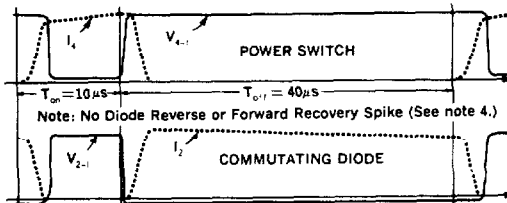

Figure 2. PIC645, 646, 647 Switching Waveforms
- No reverse recovery spike generated by commutating diode (See note 4. and Fig. 2.)
- In switching an inductive load, the current will lead the voltage on turn-on and lag the voltage on turn-off (see Figure 2). Therefore, Voltage Delay Time (t_{DVI}) = $t_{di} + t_{ri}$ and Current Storage Time (t_{st}) = $t_{sv} + t_{fv}$.
- As can be seen from the switching waveforms shown in Figure 2, no reverse of forward recovery spike is generated by the commutating diode during switching! This reduces self-generated noise, since no current spike is fed through the switching regulator. It also improves efficiency and reliability, since the power switch only carries current during turn-on.